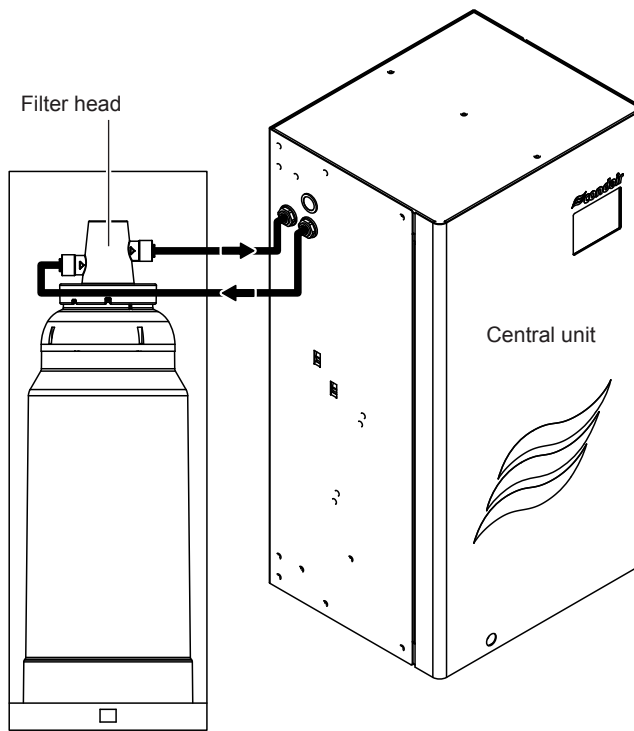
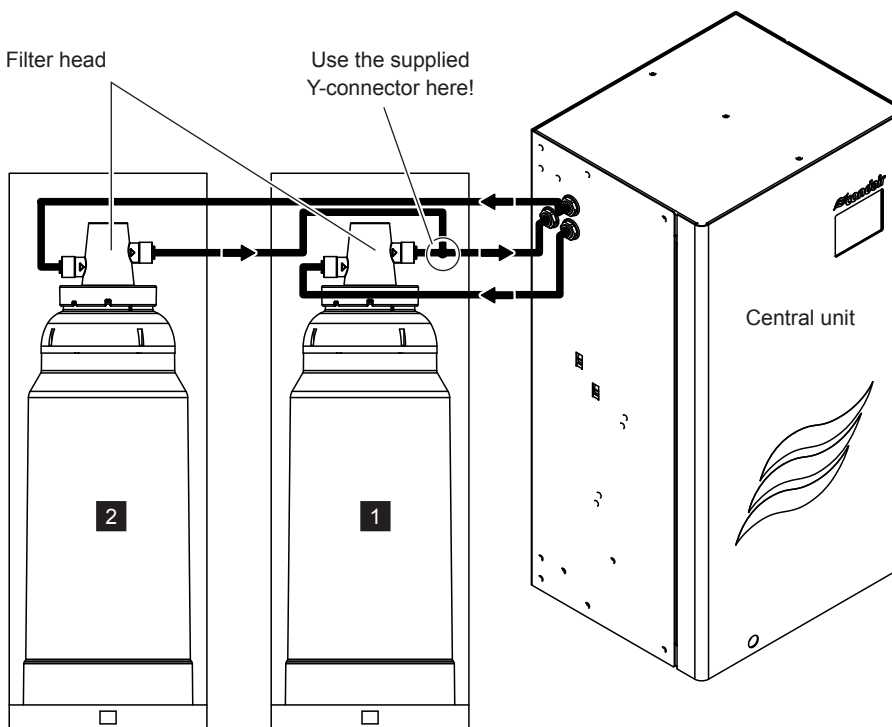

Fig. 36: Connection diagram with one water filter
Fig. 37: Connection diagram with two water filters
8. Connect the water hoses between the filter head and the central unit according to Fig. 36 or Fig. 37.